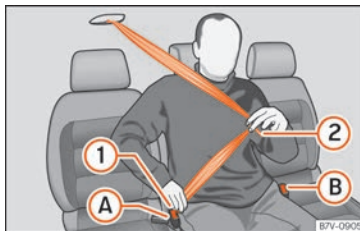

Fig. 14 Fasten the seat belt on the centre seat in the second row of seats
- Use latch plate of the belt »» Fig. 14 ① to pull the seat belt down. Do **not** twist the seat belt when doing so »» ⚠.
- Engage the latch plate ① in the buckle of the corresponding seat A.
- Use the latch plate »» Fig. 14 ② to pull the seat belt across your lap.
- Engage the latch plate ② in the buckle of the corresponding seat B.
- Press the red button on the buckle »» Fig. 14 A. The latch plate will come out of the buckle.
- Press the red button on the buckle »» Fig. 14 B. The latch plate will come out of the buckle.